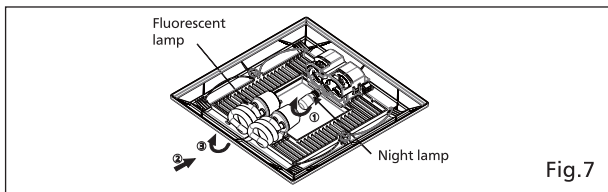

Fig.7
9. Install the night lamp and fluorescent lamps. (Fig.7)
4. Replace the 4W night lamp. (Fig.22) Install the fluorescent lamps (Maxlite MLS13GU35 13W) as shown in step ② and step ③ of Fig.7 (page 9).